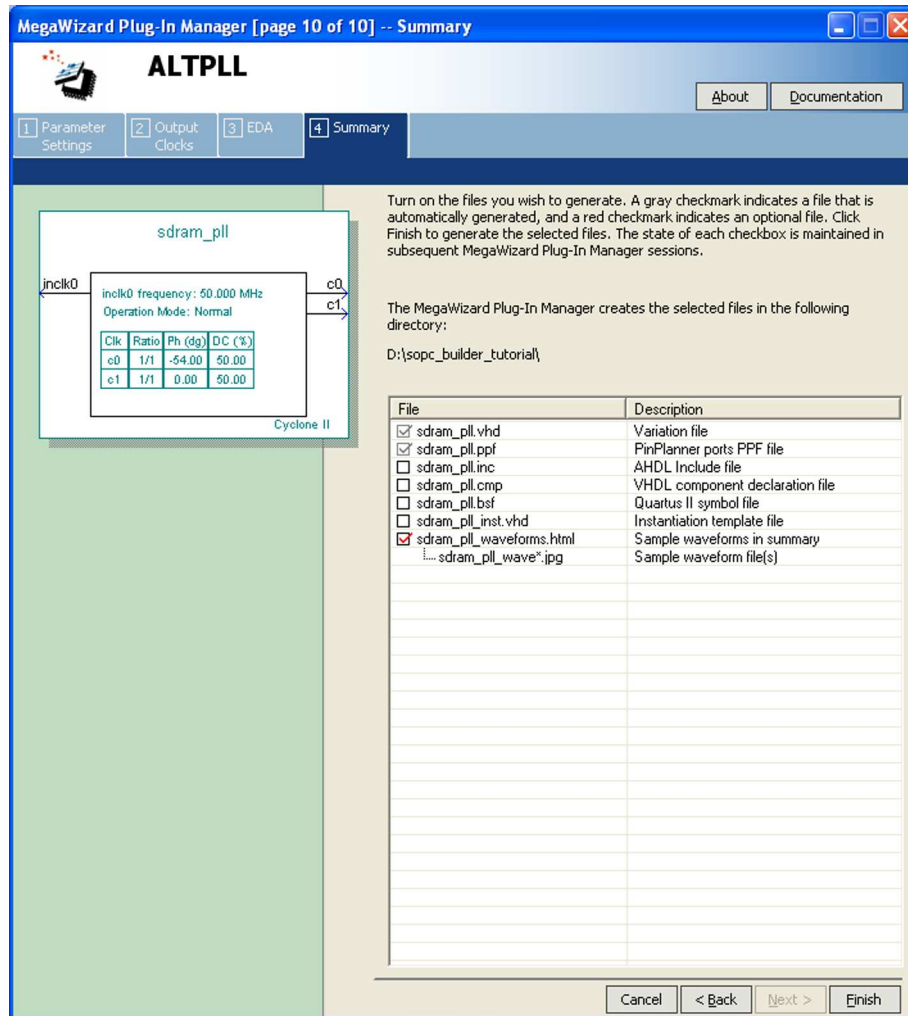

Figure 17. The summary page.
- In the summary window in Figure 17 click **Finish** to complete the process. At this point, a box may pop up asking you to add the newly generated files to the project. In this case, select **NO**, since this is not needed when using VHDL.